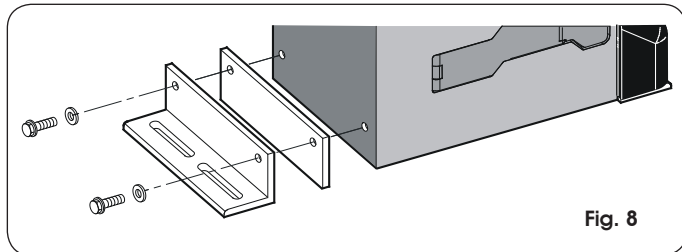

Fig. 8
1. Assemble the mounting brackets and anti-vibration spacers on the operator as shown in Fig. 8.